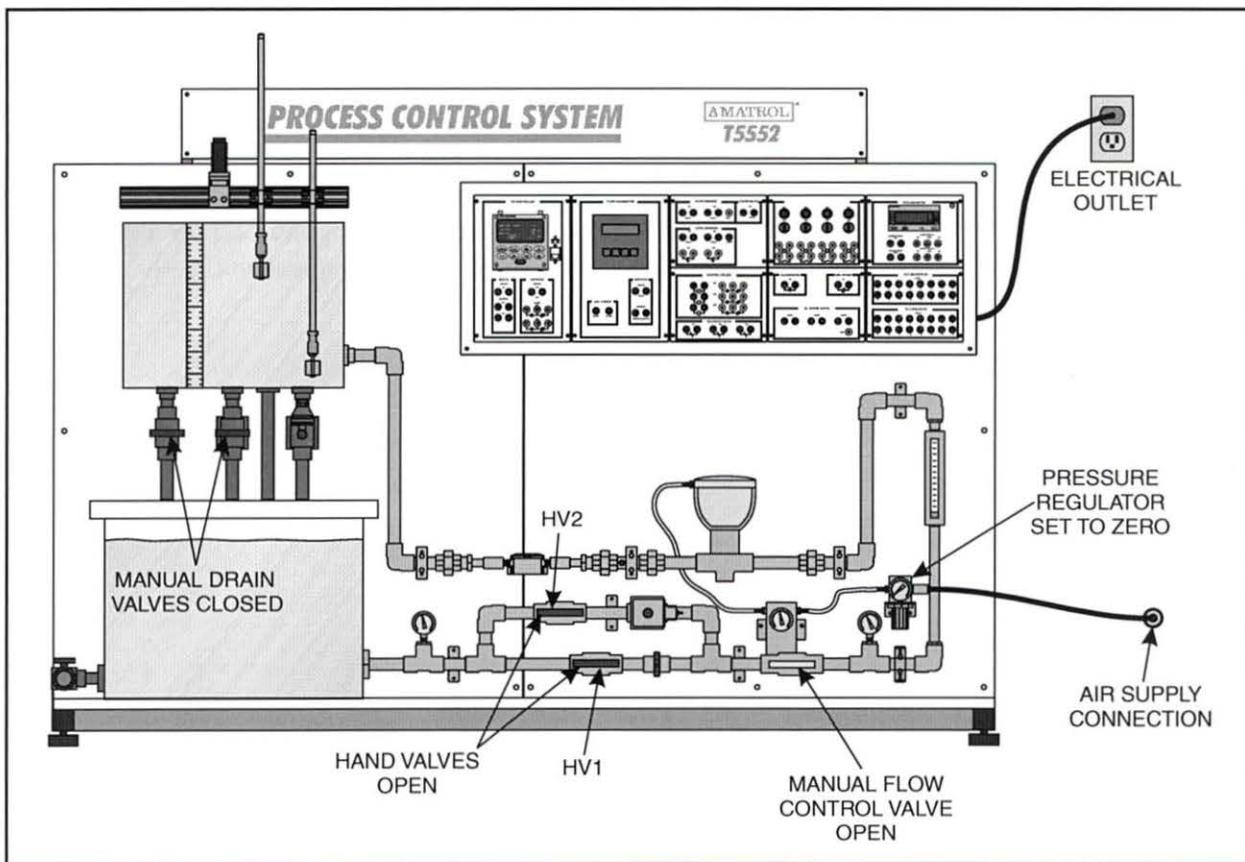

Figure 32. T5552 Setup
- 2. Perform the following substeps to set up the T5552, as shown in figure 32.